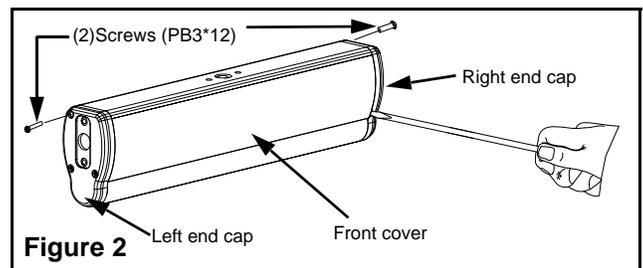

Figure 2
4. Remove 1 screw (PB3\*12) from the top of the left and right end caps (see figure 2).